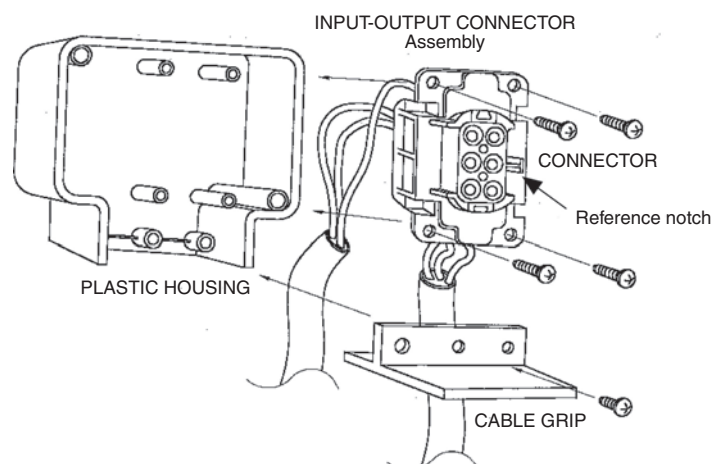

Fig. 3 Connection terminals housing
1. Wire up the Input-Output connector supplied as shown in figure 3, using insulated cable with wires whose section is at least 2.5 mm².
2. Insert the connector into the plastic housing and secure it using the screws supplied. Secure the wires to the housing using the cable grip (see fig. 3).